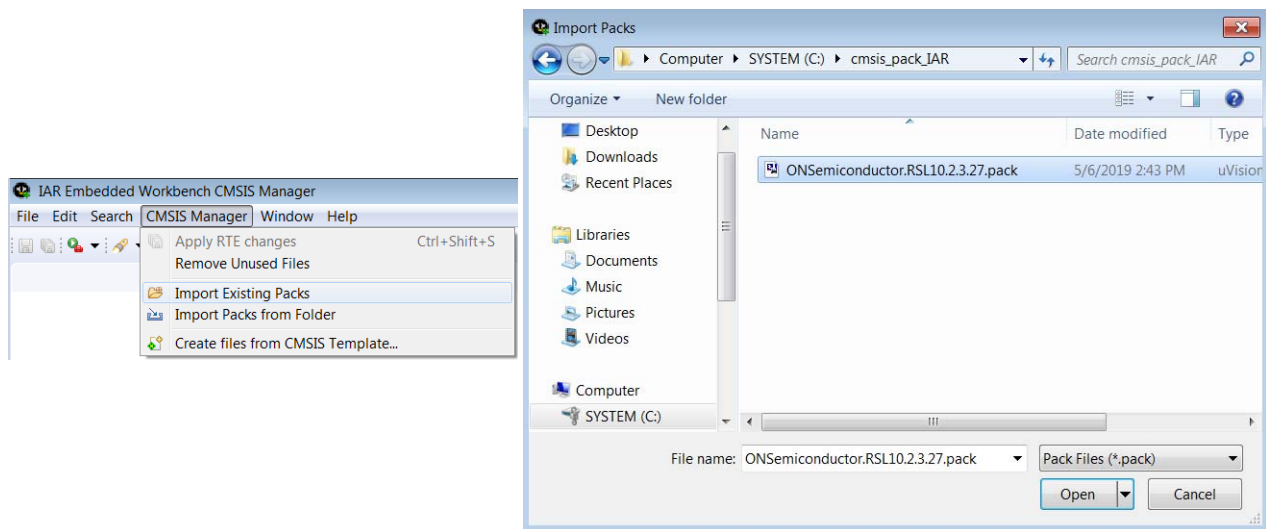

Figure 28. Installing the RSL10 CMSIS-Pack for the IAR Embedded Workbench IDE
3. Click on **CMSIS Manager > Import Existing Packs**, select your pack file *ON Semiconductor.RSL10.version.pack*, and click **Open** (see Figure 28). **version** is the RSL10 version, such as 2.3.27.